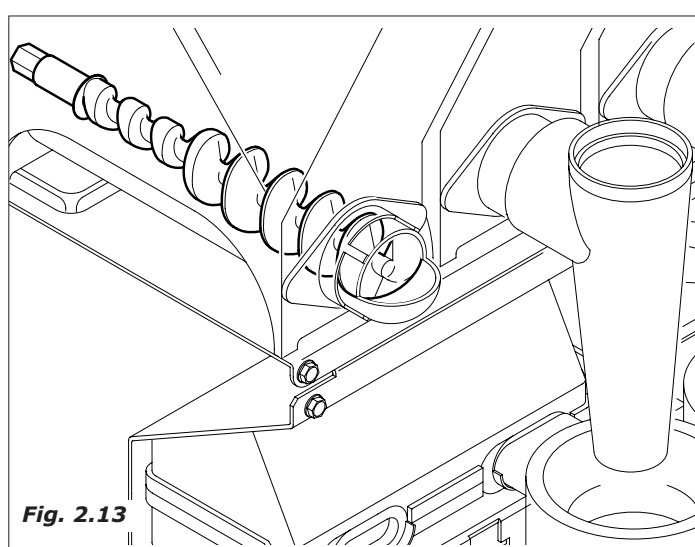

Fig. 2.13
- The instant product geared motor activates the helicoidal screw conveyor so as to dispense the quantity of product programmed into the mixer (in some versions several products can be processed in the same mixer such as milk and chocolate) (Fig.2.13).
- Once the preset water and powder quantity has been preset has been supplied, the mixer is disabled after a time (T) set during the programming.